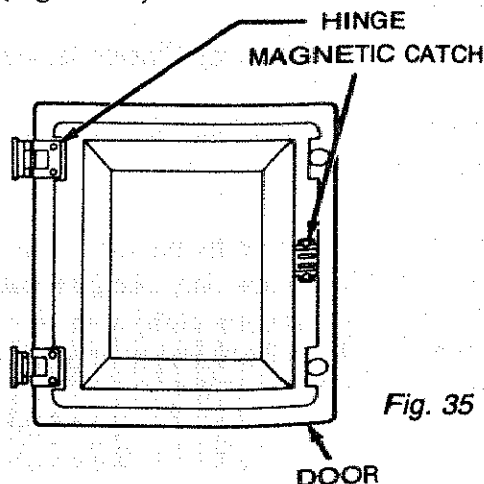

Fig. 35
2. Put a magnetic catch on the right edge of door. (Figure 35)
3. Fasten using two pan head screws. Tighten with a Phillips screwdriver. (Figures 35 & 36)